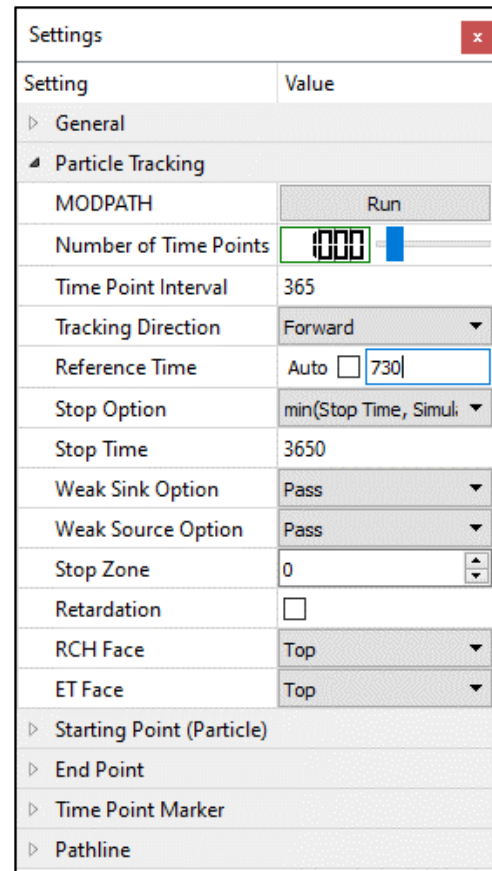

Figure 161. The Particle Tracking group of the Settings window for MODPATH
2. Particle Tracking (Figure 161)